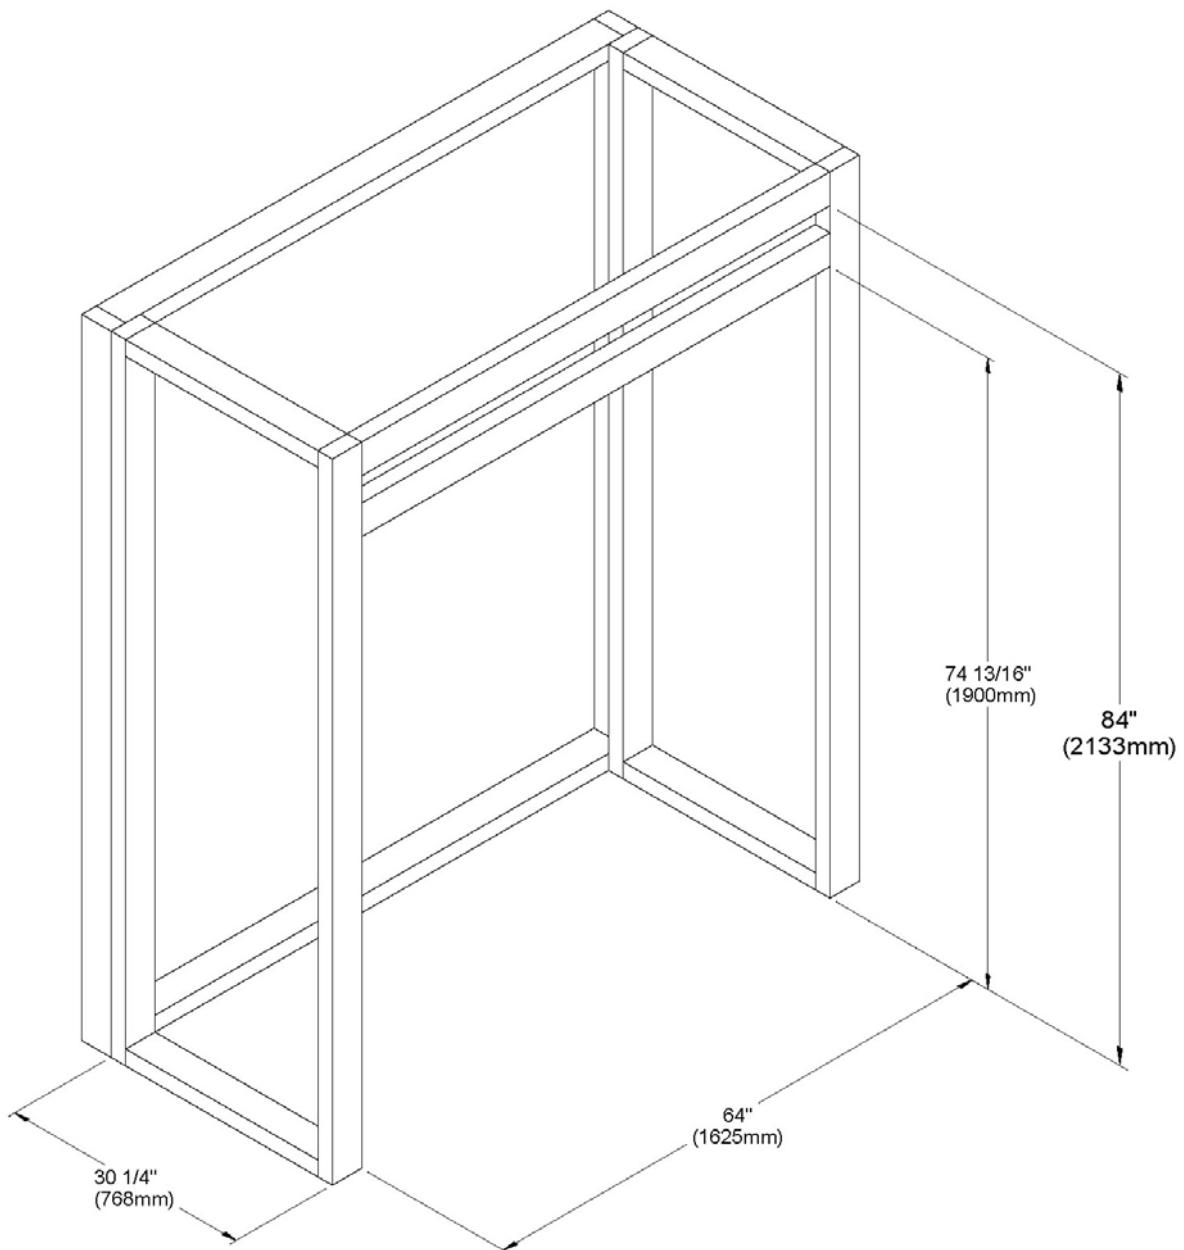
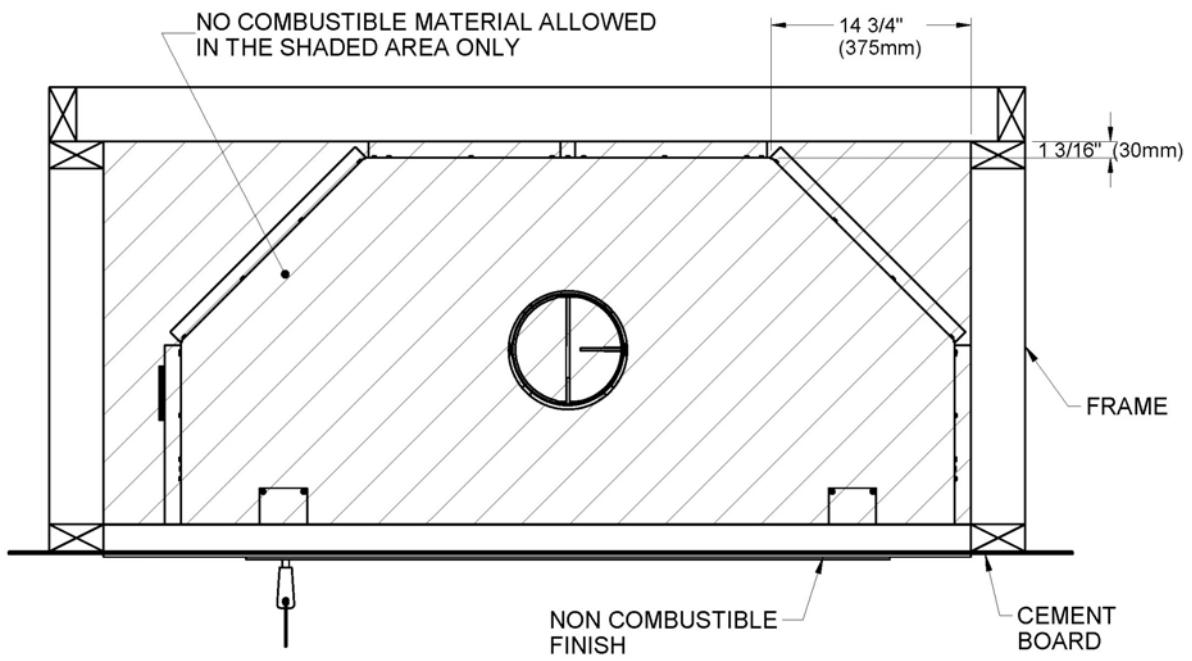

Figure 11
Figure 12
- B. Frame the fireplace with vertical studs on each side of the fireplace running from floor to ceiling (see **Figure 11**). Position the studs back from the front edge of the fireplace, leaving a space the thickness of the facing material so that the facing can be installed flush with the fireplace facing (within limitations of **Figure 12**). Frame headers between the vertical studs only as follows: